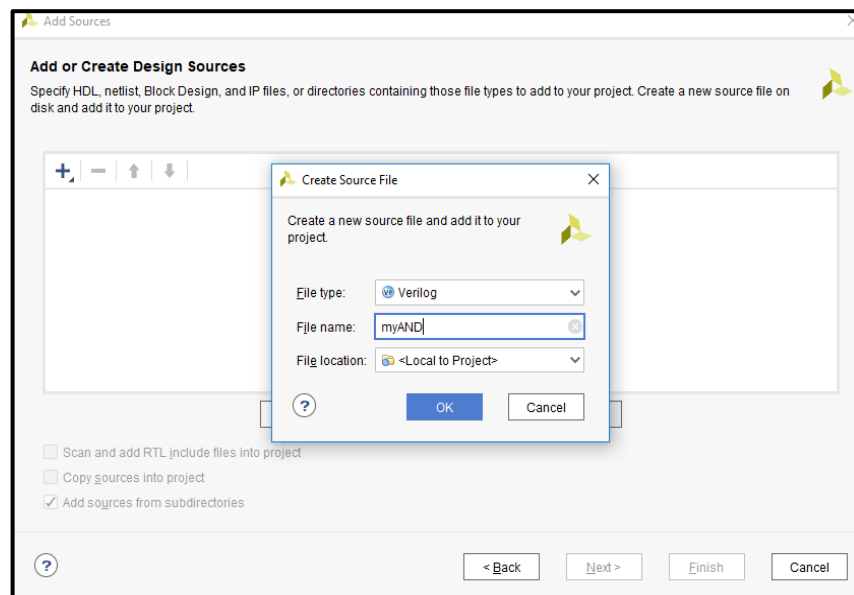

Figure 6. Adding source file to the project
Step 2 (Design Entry using Verilog) – As done in Lab 2, add a source file to your project and name it, for example - “myAND”. Make sure Verilog is selected as the File type, as shown in Figure 6.